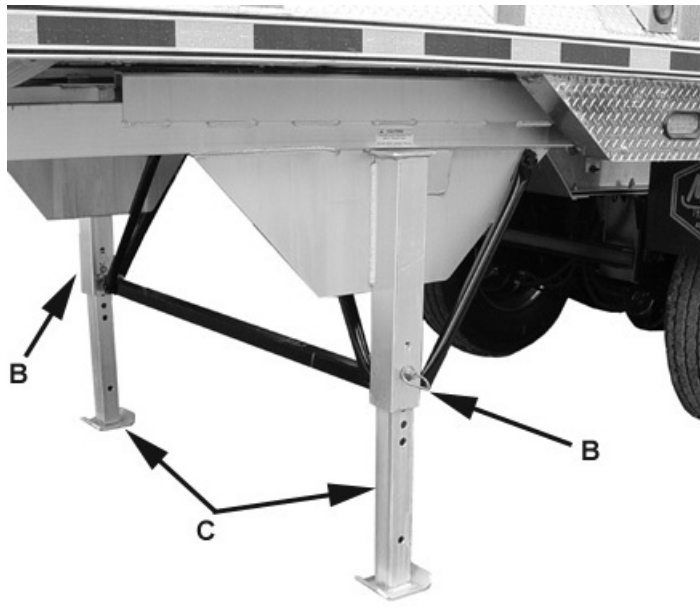

Figure 3-7 No-Load Support Legs
13. Raise the landing gear. Your trailer may be equipped with a two speed landing gear, or no-load support legs. MAC Trailer uses a two speed landing gear from several different manufacturers. High speed may be “in” on some models and “out” on others. Engage the crank handle (A) to the shaft and turn to retract the landing gear, or pull retaining pins and pins (B), fully retract the no-load legs (C) and insert pins and retaining pins. Return the two speed landing gear crank handle to the storage position. See figure 3-7.